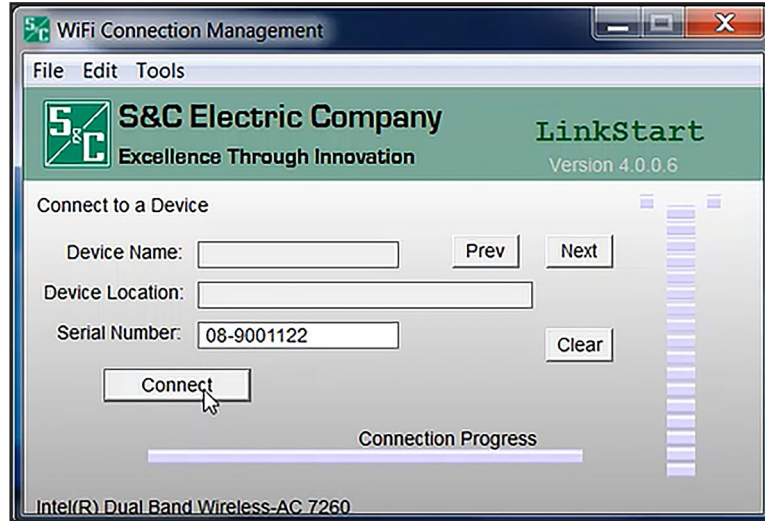

Figure 5. The *Wi-Fi Connection Management* screen.
- STEP 1.** In the Windows® 10 **Start** menu, select *Start>Programs>S&C Electric> LinkStart>LinkStart V4*. The *Wi-Fi Connection Management* screen will open. See Figure 5.
- STEP 2.** Enter the serial number of the IntelliRupter fault interrupter and click on the **Connect** button. See Figure 5.